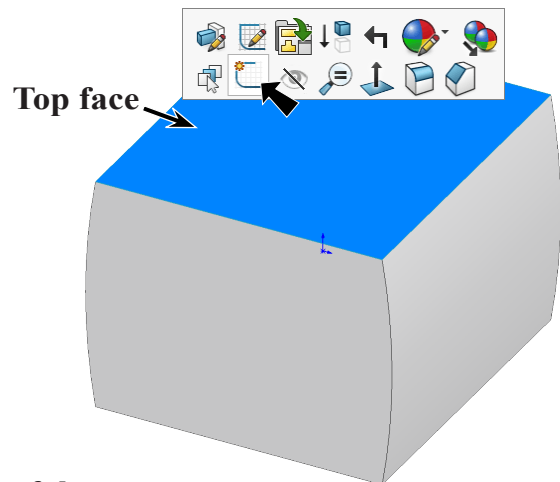

Fig. 12
Step 1. Click the **top face** and click **Sketch**  on the context toolbar, **Fig. 12**.